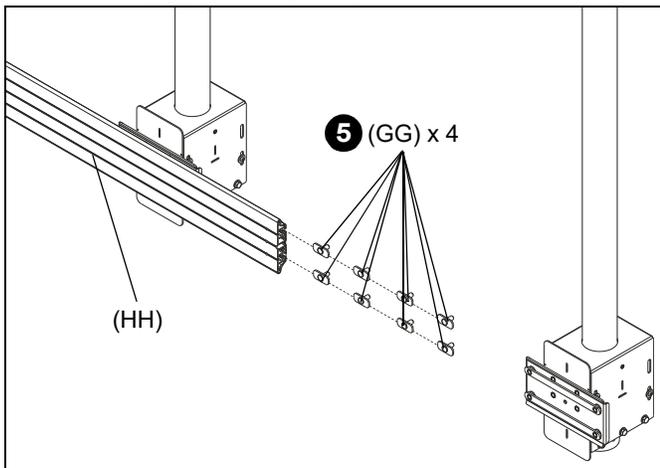

Figure 5
- Slide four wind shield connectors (GG) into back grooves on 2 x 1 rail (HH). (See Figure 5)